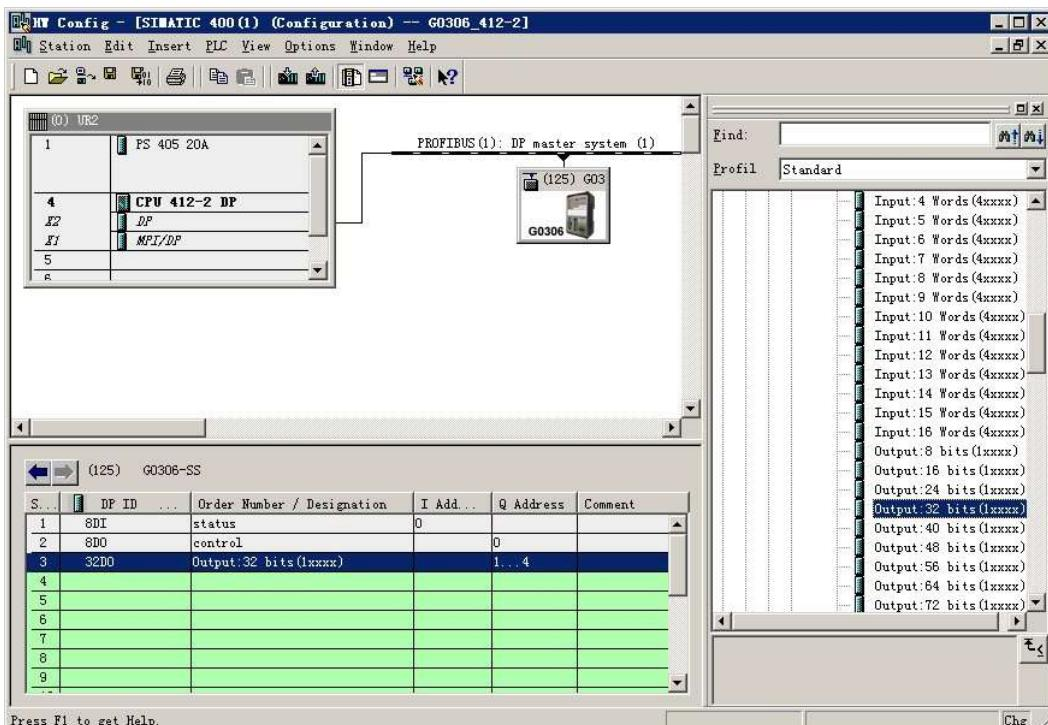

Figure 44 Add“Output:32 bits(1xxxx)”module
a) Add “Output:32 bits(1xxxx)” module, as shown in Figure 44: